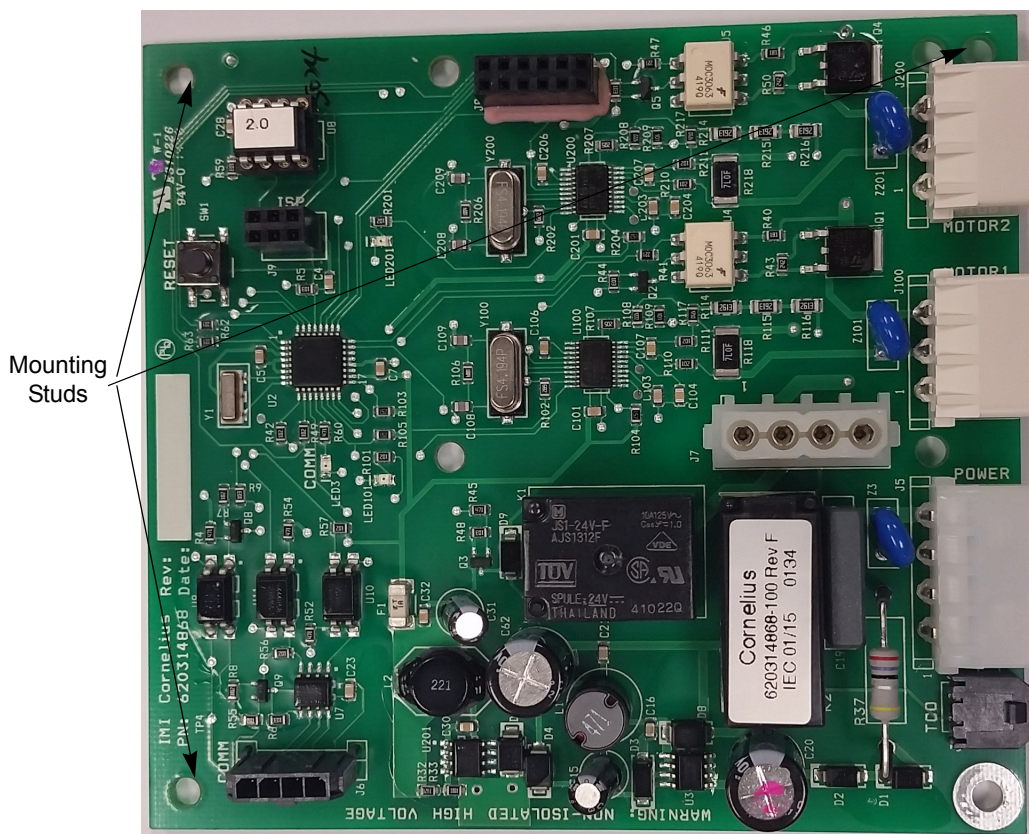

Figure 52. View of Motor Board in E-Box
The motor board is located in the E-Box, to the right of the control board. It is mounted to the panel on three (3) plastic mounting studs and a threaded standoff, shown in Figure 52. To replace the motor board, perform the procedure in Table 61.